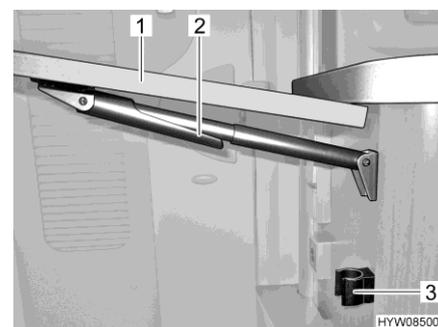

Fig. 84 Folding away the folding worktop
- Hold the folding worktop (Fig. 84,1) at the edges and lift gently. With your other hand, swing down the fixture (Fig. 84,2) on the telescopic holder.
- Fold down the table top until the telescopic holder clicks into position in the holder (Fig. 84,3).